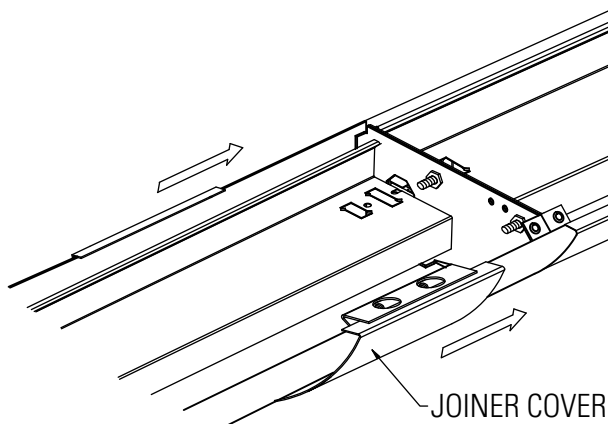

Figure 7
5. Connect fixtures together using JOINER BRACE. (Fig. 7)
6. Slide JOINER COVER into place and tighten 2 screws. (Fig. 7 & Fig. 8)